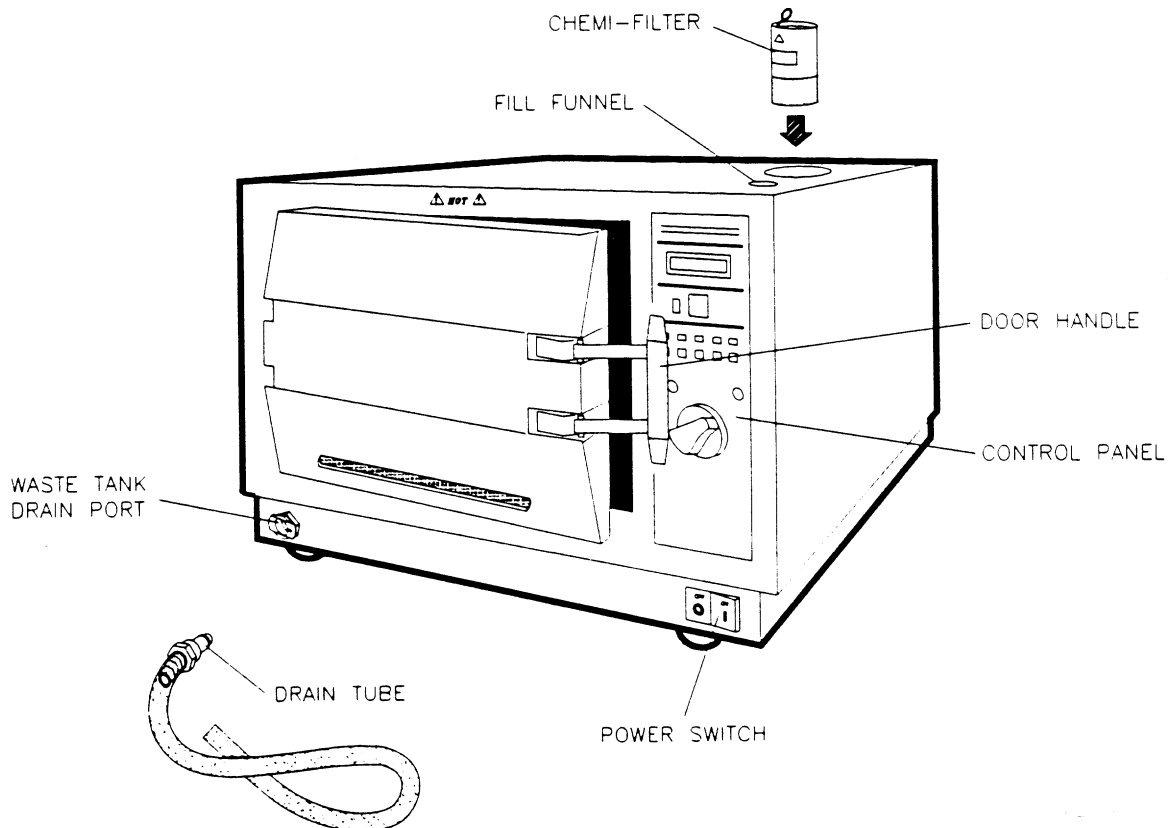

Figure 1: Chemiclave EC5500 (Front View)
The power switch on the front of the sterilizer turns power to the sterilizer ON (I) or OFF (O). See Figure 1.